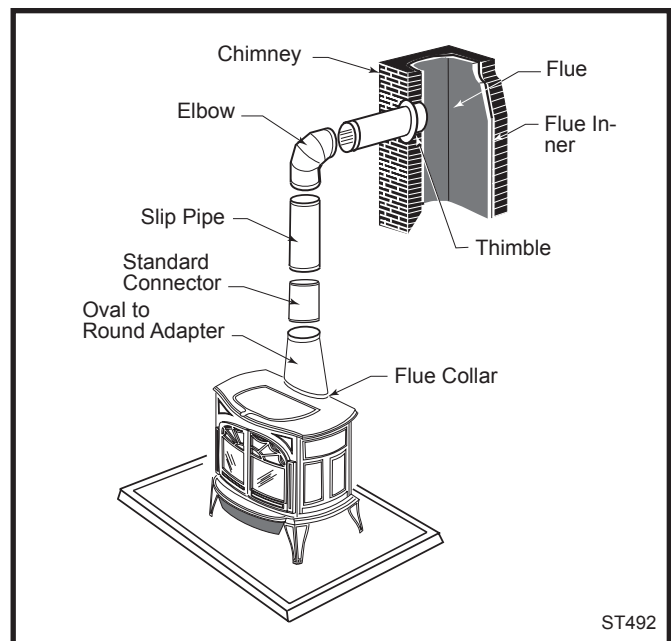

Fig. 5 An exploded view of the chimney connection in a freestanding masonry installation.
- Fasten each joint between sections of chimney connector, including telescoping joints, with at least three (3) sheet metal screws. The pre-drilled holes in the top of each section of chimney connector serve as guides when you drill 1/8" (3 mm) holes in the bottom of the next section.
- Fasten the chimney connector to the chimney. Instructions for various installations follow. Figure 5 illustrates the general layout of chimney connector parts.